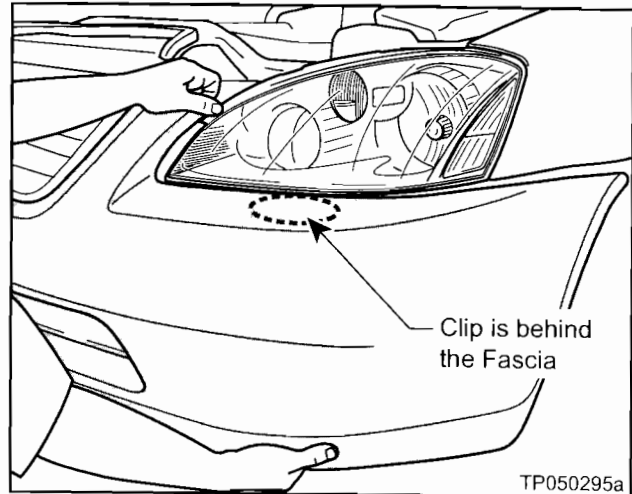

Figure 6
7. Hold the bumper fascia as shown in Figure 6 and carefully pull it loose from the corner support clip.